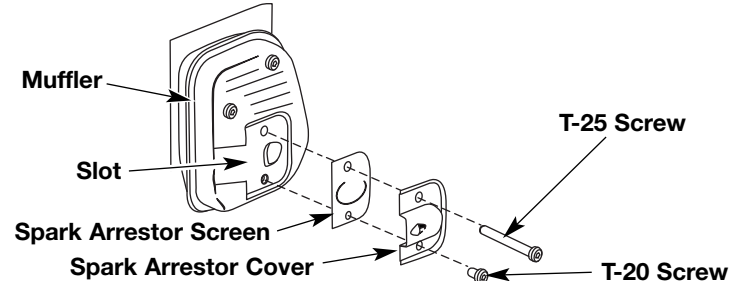

Fig. 36
2. With a flat blade screwdriver, or a Torx T-20 bit and a T-25 bit, remove the 2 screws attaching the spark arrestor cover to the muffler (Fig. 36).